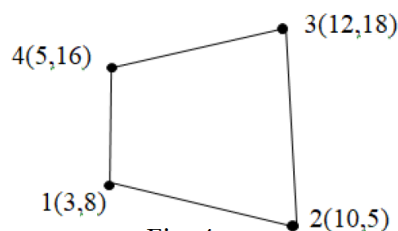

Fig. 4
c) For the quadrilateral element shown in figure 4, find the Jacobian matrix at $\xi = 1/4$ and $\eta = 1/4$. **05**